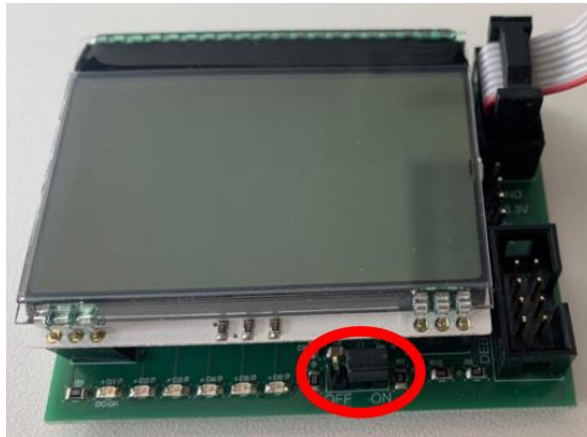

Figure 11: Set the jumper at the position where a red circle
- Set the jumper as shown in Figure 11 below.